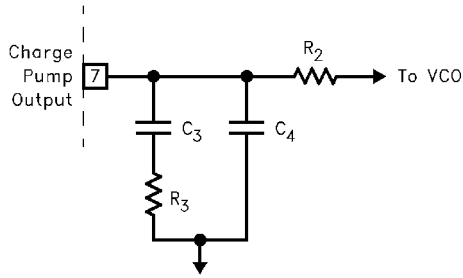

FIGURE 12. TYPICAL LOOP FILTER
6. Notice R2 has little effect on the loop filter design. R2 should be large, around 100k, and can be adjusted to compensate for any static phase error Tθ at lock, but if made too large, will slow loop response. If R2 is made smaller, Tθ (see “Timing Diagrams” on page 5) increases, and if R2 increases, Tθ decreases. For LDET to be low at lock, |Tθ| < 50ns. C4 is used mainly to attenuate high frequency noise from the charge pump. The effect these components have on-time to lock is illustrated in Figure 12.